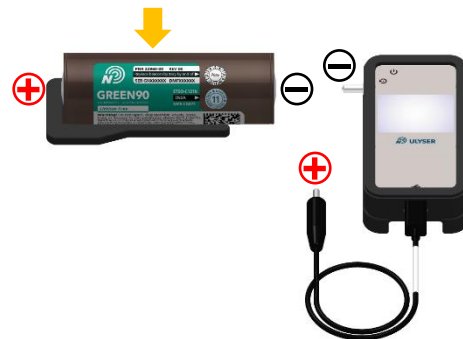

Figure 29: Prepare measurement of Novega ULD
**Ensure the correct polarity alignment of ULD and Ulyser!** (see Figure 29)